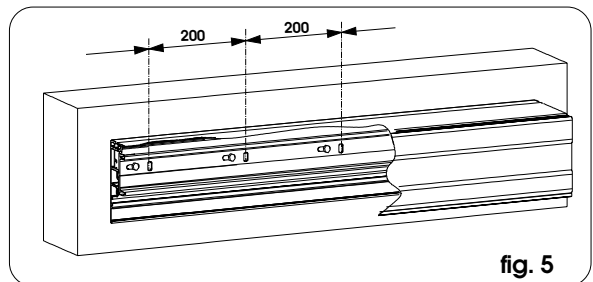

fig. 5
• To begin with, secure the assembled head profile (using M8 screws and appropriate expansion plugs) on the vertical slots at the ends and level parallel to the floor. Secure at the centre, firmly lifting the head profile to align the three securing points. Carry out the remaining securing operations, every 20 cm on the vertical slots as shown in figure 5.